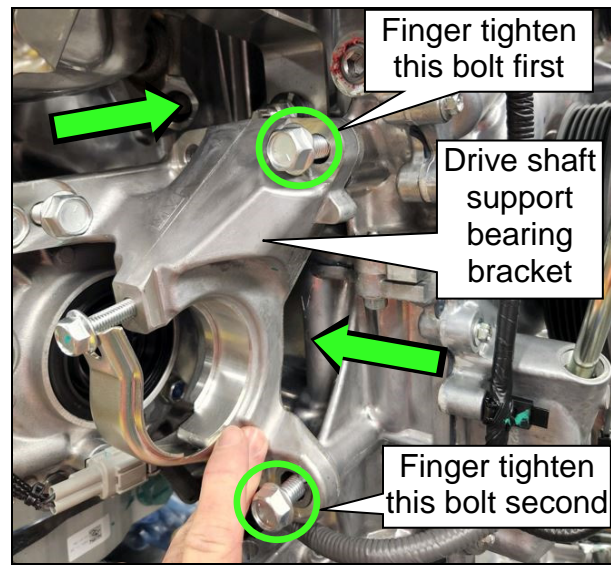

Figure 8
1. Place and hold the drive shaft support bearing bracket into position, ensuring it is flat against the engine block and transfer assembly and loosely install the bolts (Figure 8).